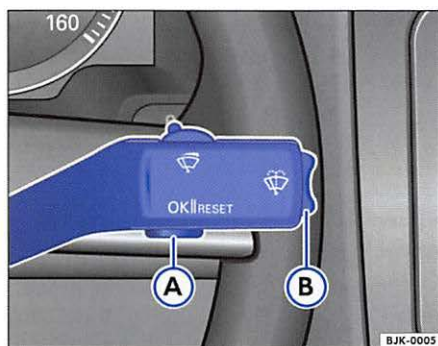

Fig. 11 In the windshield wiper lever: button (A) to select and expand the menu and rocker switch (B) to select a submenu within the menu
- Press button  **fig. 11** (A) under the windshield wiper lever once for about 5 seconds and release. The following message appears: **Please fasten seatbelt!**
- Press and hold the rocker switch (B) for five seconds to access the main menu. You may have to repeat this procedure several times if you had previously selected a different menu until you access the main menu.
- Press the rocker switch (B) at the bottom to scroll down to **Set up**. The menu will appear between two horizontal lines and a marker triangle will appear on the right side.
- Press button (A) under the windshield wiper lever. The menu **Settings** is opened.
- Press the rocker switch (B) to mark the menu option **Winter tires**.
- Press button (A) to open the sub-menu **Winter tires**.
- Use the rocker switch (B) to mark the menu entry **+ 5 mi/h (+ 10 km/h)** or **- 5 mi/h (- 10 km/h)** and press the button (A) to either increase or decrease the speed shown in the display above.
– Select **Vehicle status** menu and press button ⇒ page 14, fig. 11 **A** under the windshield wiper lever. Or
– Select the menu option **Set up** from the main menu ⇒page 12 and press button ⇒page 14, fig. 11 (A) under the windshield wiper lever. Or
- Select **Set up** from the main menu ⇒page 12 and press the button ⇒page 14, fig. 11 (A) under the windshield wiper level.
- Select **Set up** from the main menu ⇒page 12 and press the button ⇒page 14, fig. 11 (A) under the windshield wiper lever.